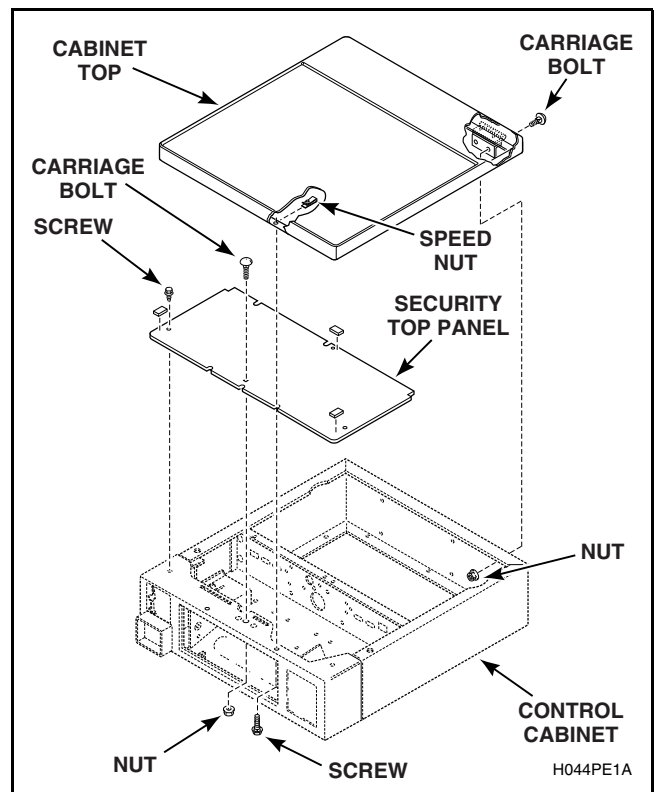

Figure 33
- (6) Remove cabinet top from washer by removing nuts and carriage bolts holding cabinet top and hinges to control cabinet. Refer to *Figure 33*.
- (7) Carefully lift cabinet top off washer and set out of the way to prevent damage.